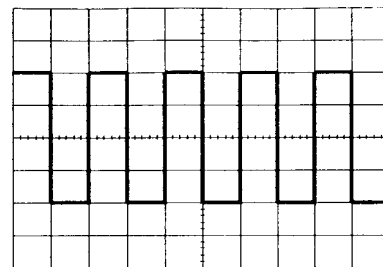

Figure 4-3
- 5) Set the AC-DC-GND switch to the AC state. A waveform as shown in the figure 4-3 will be displayed on the CRT screen
- 8) Adjust the ΔV POSITION and $\triangleleft \triangleright$ POSITION controls in appropriate positions so that the displayed waveform is aligned with the graticule and voltage(V_p-p) and period(T) can be read conveniently. The above are the basic operating procedures of the oscilloscope. The above procedures are for single-channel operation with CH 1. Single-channel operation with CH 2 can also be achieved in a similar manner. Further operation methods are explained in the subsequent paragraph.